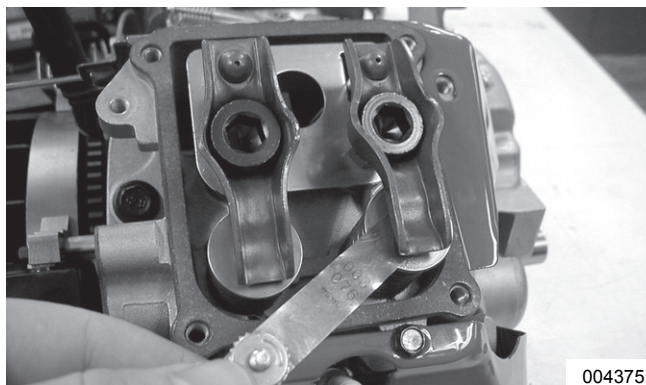

Figure 13-16. Adjust Valve Clearance
2. See Figure 13-16. Adjust rocker arms to specified clearance.